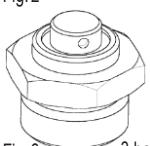

Fig. 3
- The 3BAR valve (Fig. 3) must be installed on the top part of the towel rail. In case of 'Dual fuel' installation, a T-piece of 40mm maximum length (male thread excluded) is required.
- The Spacer (B) must not be hit, moved or removed during the installation of the towel heater (electric only MOBUS installation).